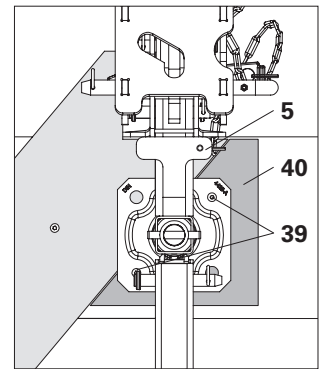
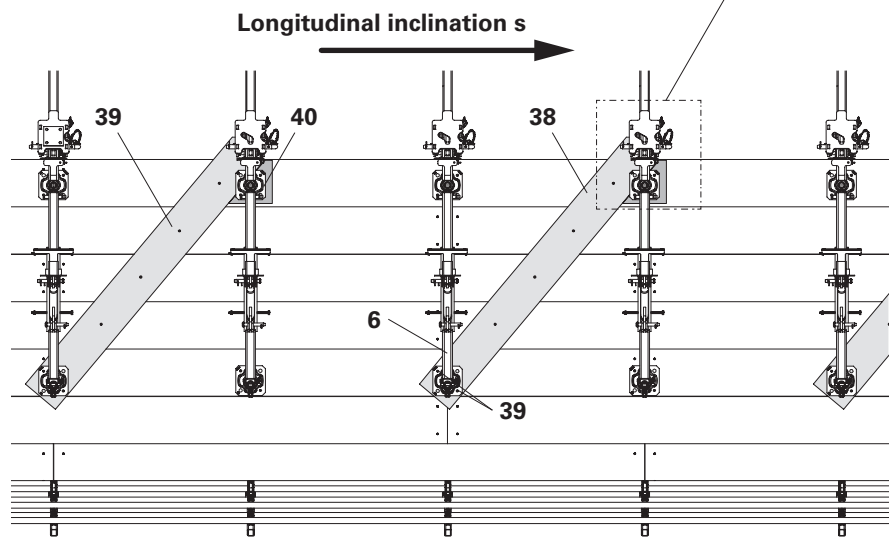

Fig. A8.01a
Fig. A8.01
5. Fix the base spindles with two Spax Screws TX 30 6 x 80 (**39**) each. (Fig. A8.01 + Fig. A8.01a)